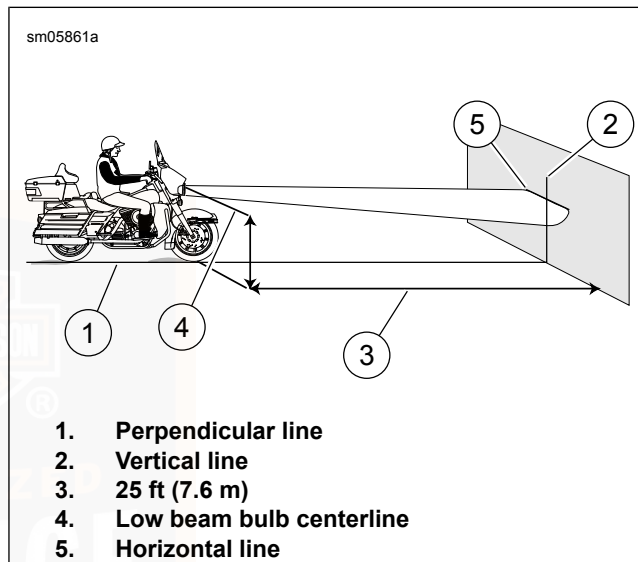

Figure 91. Headlamp Alignment: LED Type (typical)
- b. **LED, fork-mounted fairing:** See Figure 91. At the measured distance.
- b. **LED, fork-mounted fairing:** See Figure 91 . Top of hot spot at mark with headlamp set to **low beam**.